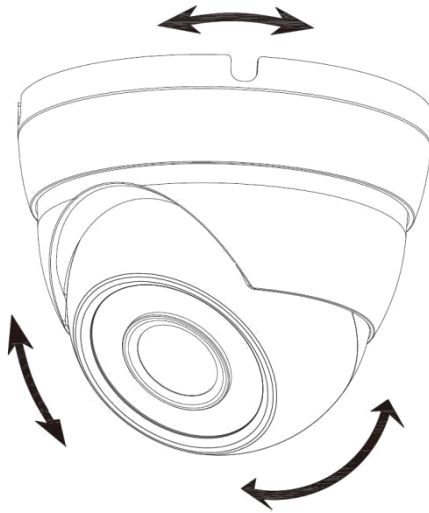

Figure 3-3
Step 1 Find the mounting template sticker from the accessory pack and stick it to the mounting surface①
Step 2 Drill screw holes (and the cable outlet hole if it needs to go through the mounting surface) on the mounting surface as indicated on the mounting template, then insert expansion bolts② from the accessory pack in the screw holes.
- For model A, hold the pedestal③ tightly and keep the device⑤ upward, rotate the fixing ring⑦ counterclockwise until you can detach it from above, and then take off the pedestal③.
- For model B and model C, loosen the locking screw⑨ with the supplied wrench⑧ and take the pedestal③ off.
Step 4 Adjust the location of the pedestal③ according to cable outlet requirement (top out or side out), then pull the cable out through mounting surface or the side cable tray. Align the screw holes on the pedestal③ to those on the mounting surface, then put in and fasten the supplied self-tapping screws④ to attach the device⑤ to the mounting surface.
- For model A, put the fixing ring⑦ back to hold the enclosure⑥, leave some spaces enough for you to adjust the device⑤. Aim the lens to the ideal angle (see Figure 3-3) and fasten the fixing ring⑦.